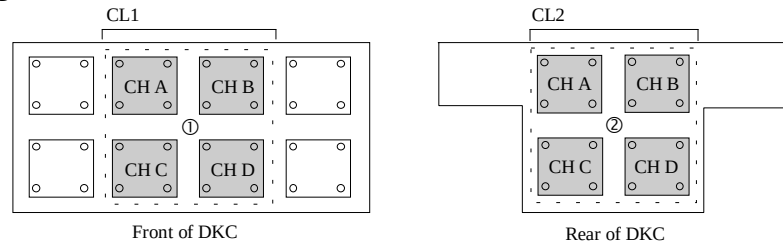

Fig. 3.6.1-3 Location of I/F Connector Panel
- Remove the dummy plate referring to Fig. 3.6.1-4.